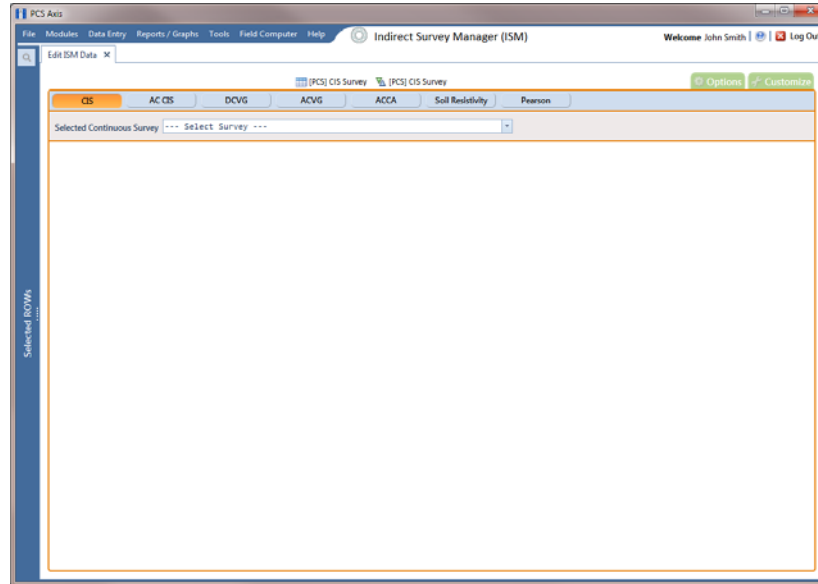

Figure 7-57. Edit ISM Data
- 3 Open the ISM data entry grid. Click **Data Entry > Edit ISM Data** (Figure 7-57).